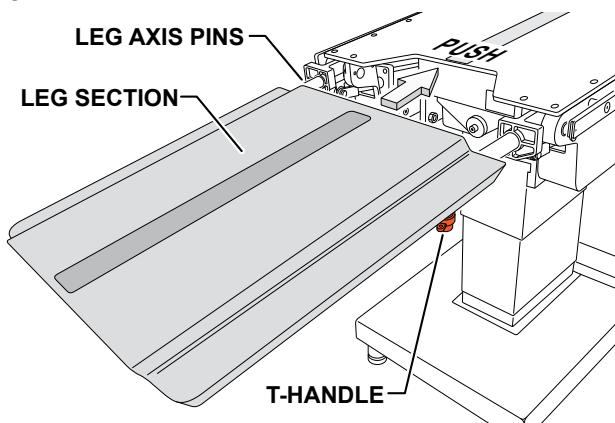

Figure 2. HyperLight Leg Section
1. Loosen the T-handles to prevent binding (Figure 2).